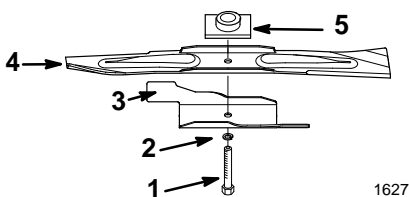

Figure 23
1. Position the blade onto the spindle and blade driver, with the curved blade tips pointing toward the mower and the blade driver nesting in the recess of the blade (Fig. 23).
2. Install the accelerator, lock washer, and blade bolt (Fig. 23).
2. Remove the blade bolt, lockwasher, blade accelerator and blade (Fig. 23).